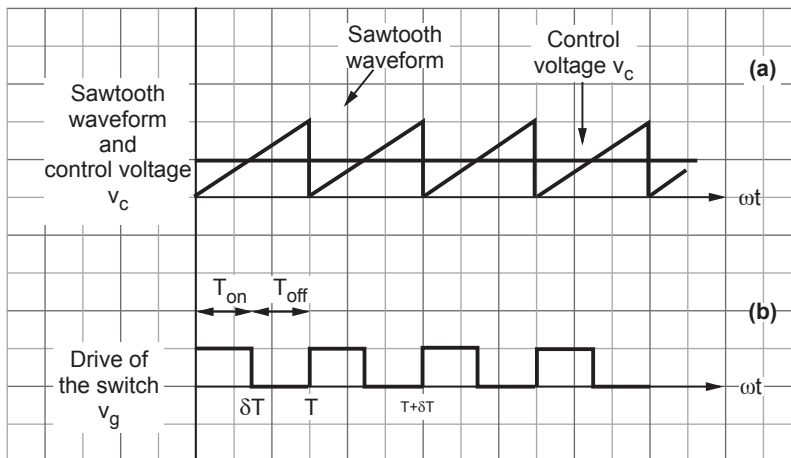

Fig. 4.6.2 Control waveforms of the switched mode regulators
- Fig. 4.6.2 shows the control waveforms. The control voltage v_c is compared with the sawtooth waveform. The result of comparison is the drive of the chopper as shown in Fig. 4.6.2 (b). This drive is given to the switch in the chopper. The sawtooth waveform is generated by an oscillator in the control circuit. The frequency of the sawtooth waveform decides the switching frequency of the chopper. Normally the switching period is 100 times longer than the switching time of the switch. Excessive switching frequencies may increase losses in the chopper.